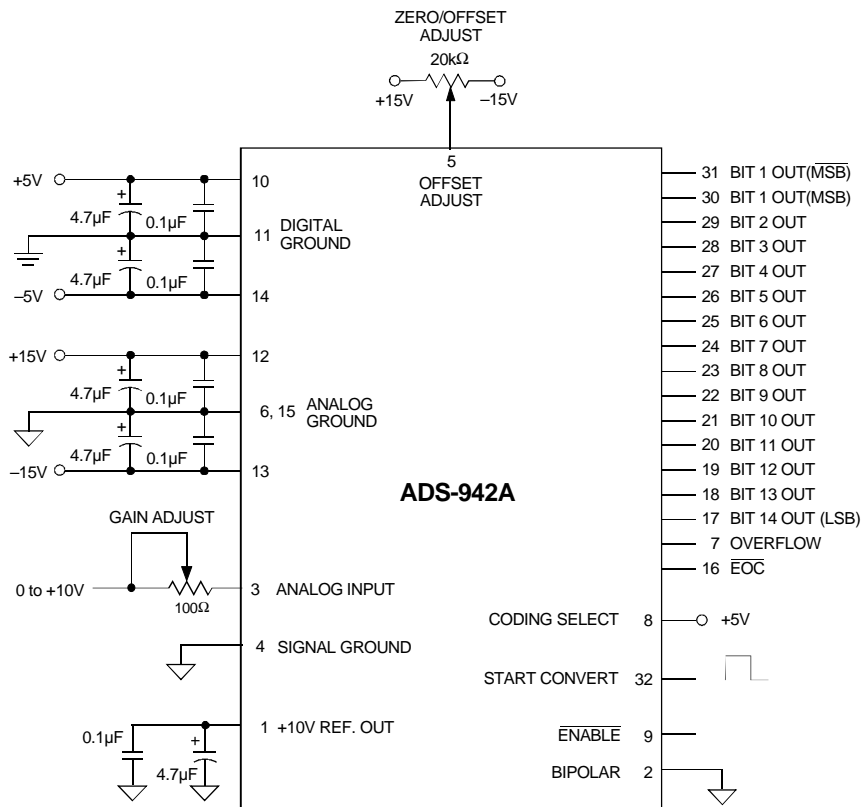

Figure 3. ADS-942A Connection Diagram (Unipolar Input)
1. Connect the converter per Figure 3 and Table 1 for the appropriate input voltage range. Apply a pulse of 35 nanoseconds minimum to START CONVERT (pin 32) at a rate of 200kHz. This rate is chosen to reduce flicker if LED's are used on the outputs for calibration purposes.